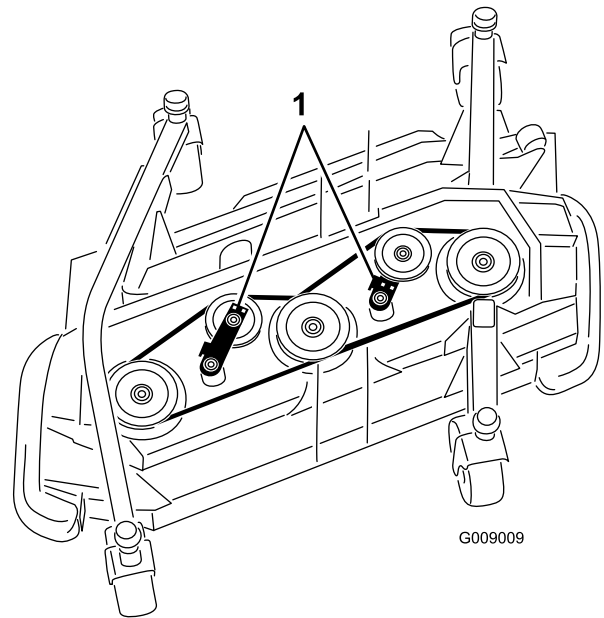

Figure 83
- Using a ratchet wrench or similar tool, move the idler pulleys (Figure 83) away from the drive belt